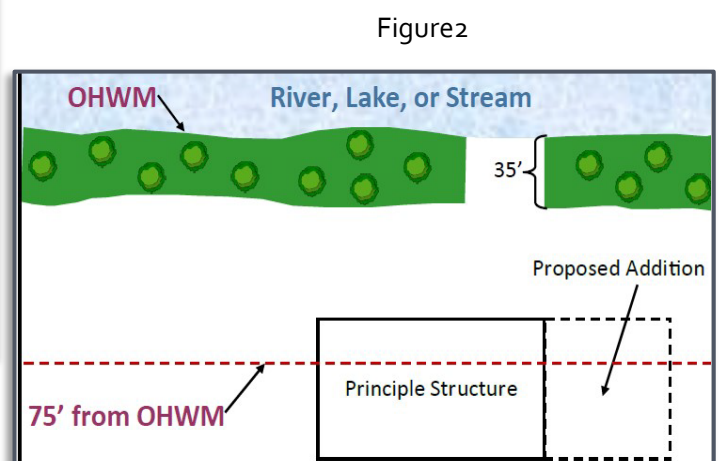

Figure 2
3. Lateral expansion of a principal structure already located between 35 and 75 feet from the OHWM (figure 2)